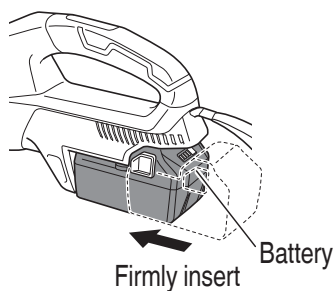

Fig. 16
3. Install the battery (**Fig. 16**)